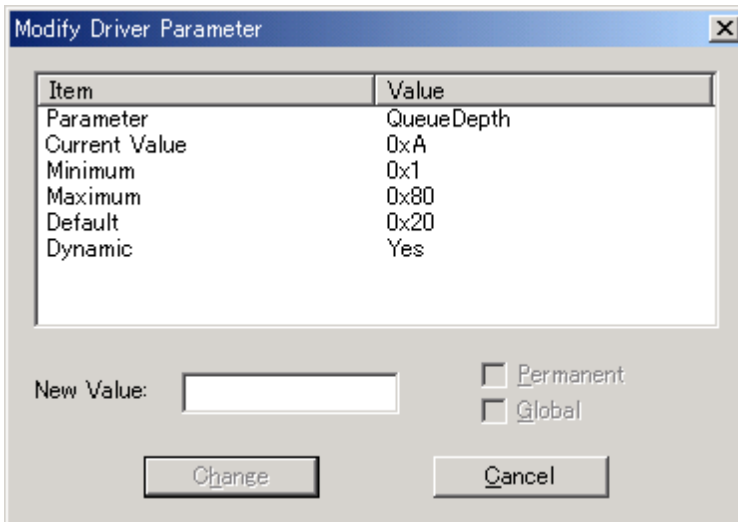

Figure 2.6 Modify Drive Parameter Panel
- e) On the **LightPulse Utility** panel, select the **Driver Parameters** option from the **Category** list box and select the applied parameter. The Modify Driver Parameter panel opens to change the value of the parameter as shown in Figure 2.6.